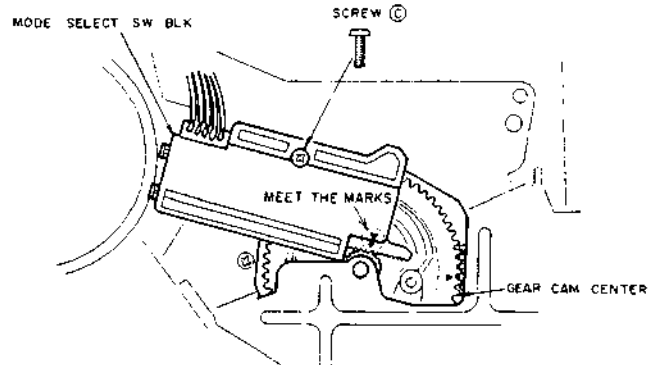

Fig. 4-14
10) Meet the marks of MODE SELECT SW and attach the MODE SELECT SW BLK onto the LOADING MECHA BLK as shown in Fig. 4-14. Tighten the MODE SELECT SW BLK with a screw (C).